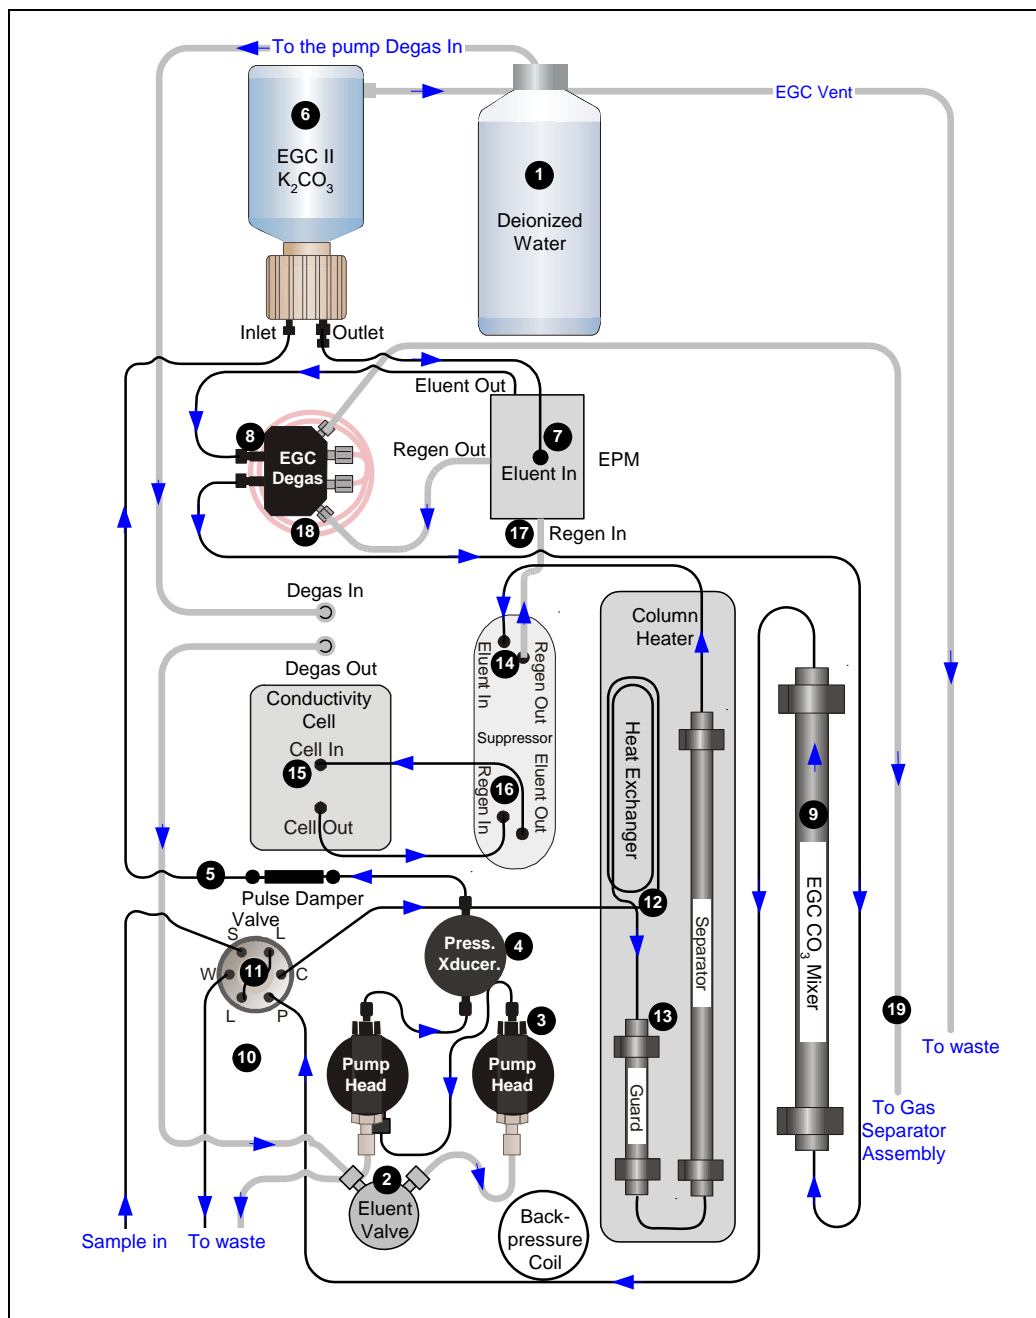

Figure 2-11. ICS-2100 Flow Schematic: Carbonate/Bicarbonate Eluent Generation
- Figure 2-11 illustrates the liquid flow path when the components required for producing carbonate/bicarbonate eluent are installed. The required components include an EGC II K₂CO₃ EluGen Cartridge, an EPM Electrolytic pH Modifier, and an EGC CO₃ Mixer.
Refer to Figure 2-11 for the flow path number locations.